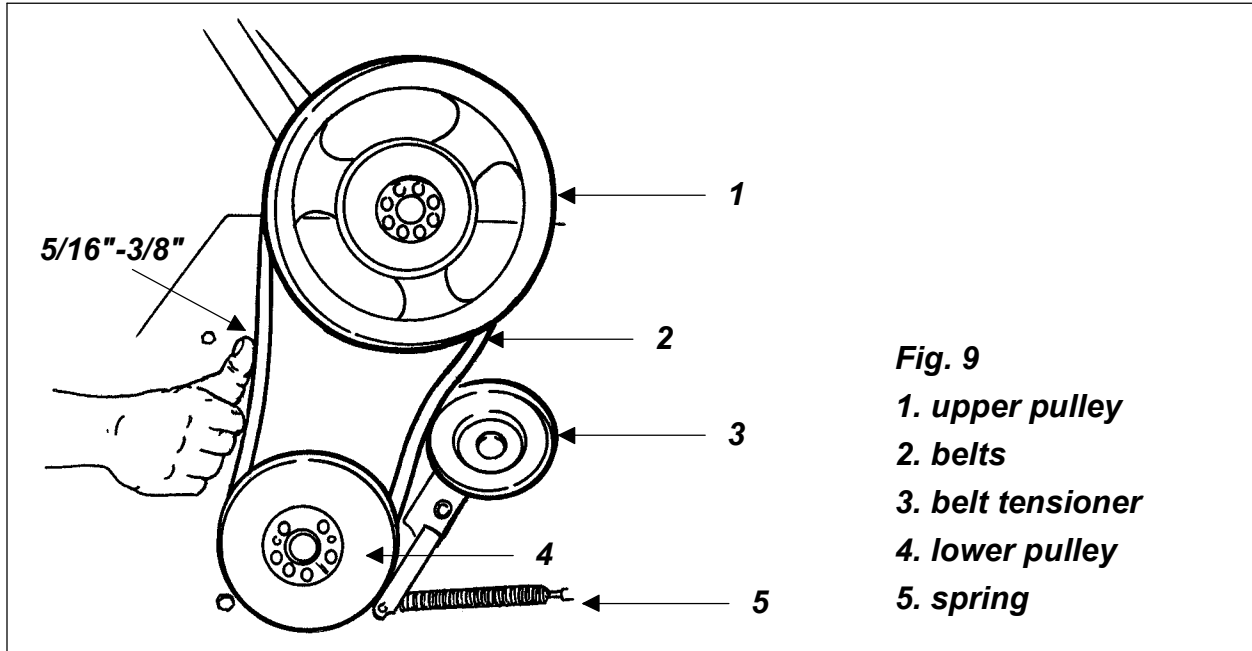

Fig. 9
Check the tension of both belts (see fig. 9) by applying a force of 12-15 lb. pushing against each belt halfway between the pulleys. The belt deflection should be between $\frac{5}{16}$ " - $\frac{3}{8}$ ".
5. Ensure that the belt is at the proper tension (**see fig. 9**).